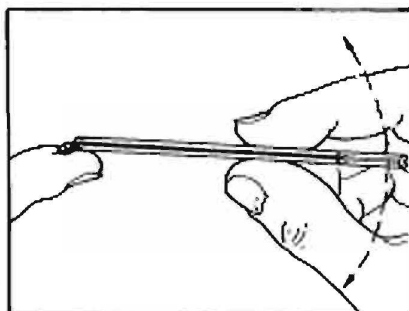

Figure 14. Tilt PRE-CAL tube to Regulate Blood Flow.
- (1). Puncture the fingertip with a RED-LANCE Blood Lancet or equivalent disposable lancet.
- (2). Grasp the end of a PRE-CAL Tube nearest the calibration mark, between the thumb and forefinger. Do not obscure calibration mark.
- (3). Insert the end farthest from the calibration mark into the center of the drop of blood on the finger. NOTE: THE FINGERTIP SHOULD NEVER BE TIGHTLY SQUEEZED TO INCREASE BLOOD FLOW. Squeezing the finger will dilute the blood specimen with tissue fluid and cause a falsely low hematocrit reading. Hold the tube level (in a horizontal position) and observe the blood level as it approaches the calibration mark.
(4). FILL THE TUBE EXACTLY TO THE CALIBRATION MARK. The rate of filling may be accelerated by tilting the end near the calibration mark below horizontal. The rate may be retarded, stopped or reversed by tilting the same end above horizontal. (Figure 14).